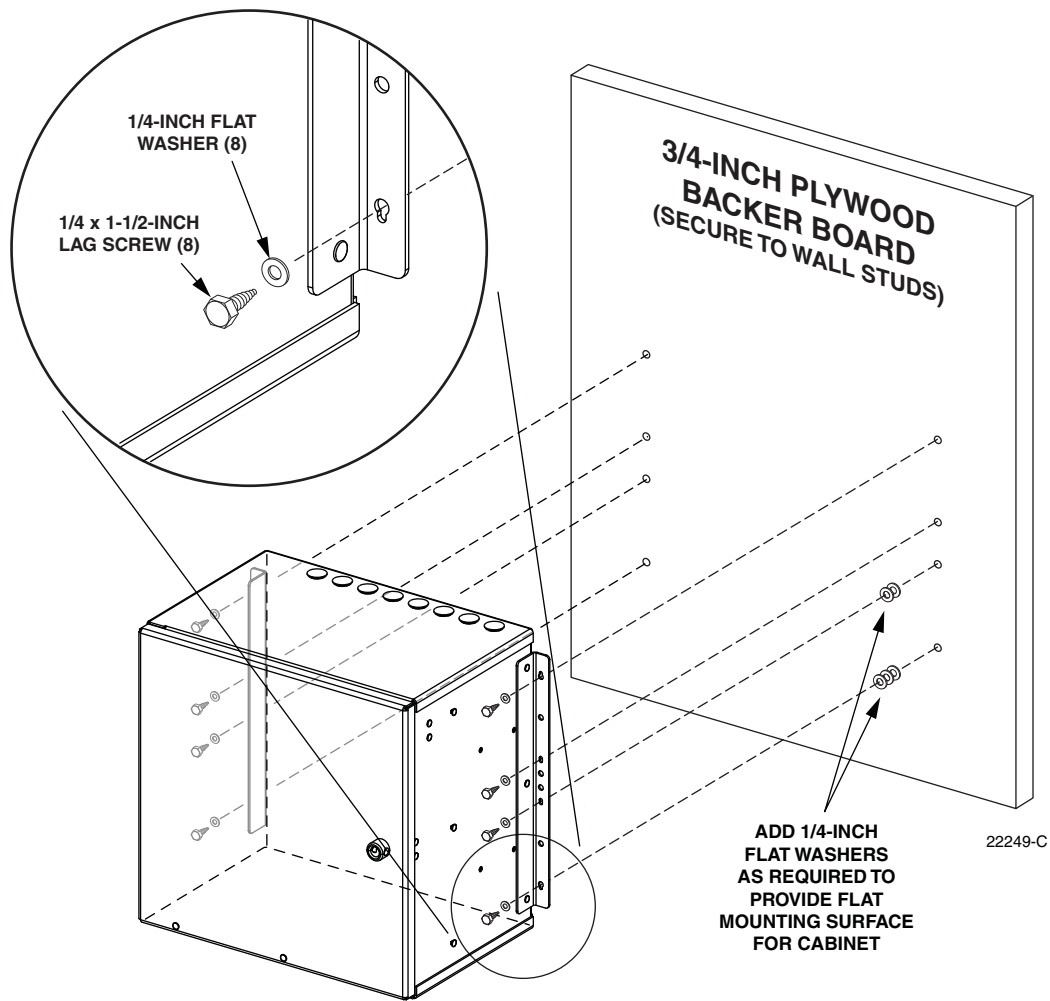

Figure 8. Secure Cabinet to Plywood Backer
5. Secure the cabinet to the plywood backer as shown in Figure 8 using the eight 1/4 x 1-1/2-inch lag screws and 1/4-inch flat washers. Tighten lag screws securely.